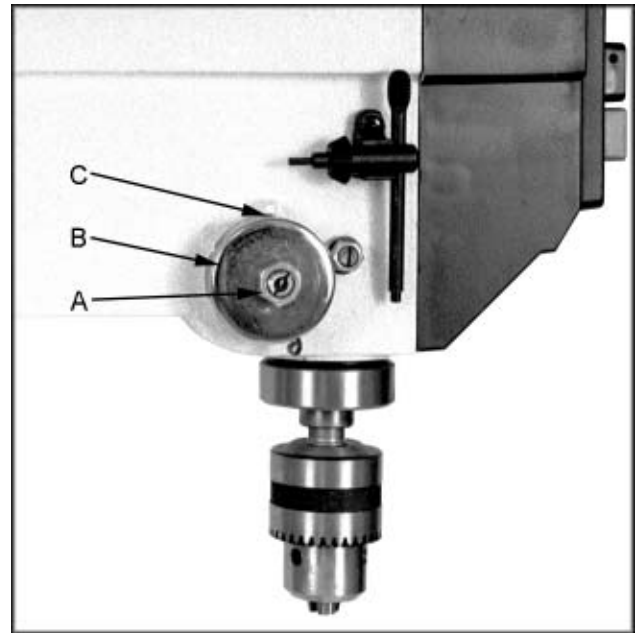

Fig. 10
2. Loosen two jam nuts (A, Fig. 10). **Do not remove.**
3. Firmly hold the coil spring cover (B, Fig. 10).
4. Pull out the cover and rotate until the pin (C, Fig. 10) on the return spring plate engages the next notch in the coil spring cover. Turn the cover clockwise to decrease tension and counter-clockwise to increase tension.
5. Tighten two jam nuts (A, Fig. 10). Do not over-tighten. Nuts should not contact the housing when tight. The jam nuts should be tightened against each other.